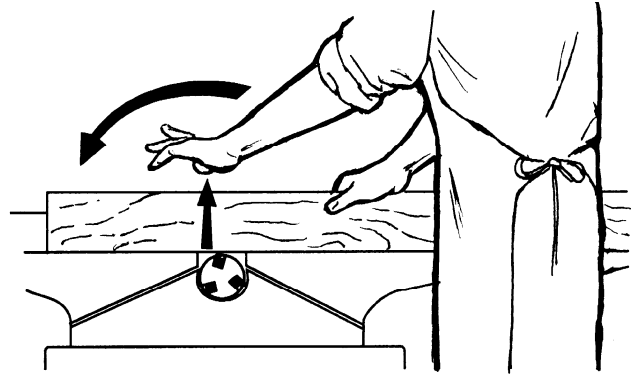

**FIGURE 1**
**Three inch rule.** When working a piece of wood on the jointer, follow the 3 inch radius rule. The hands must never be closer than 3 inches to the cutterhead. See Figure 1.